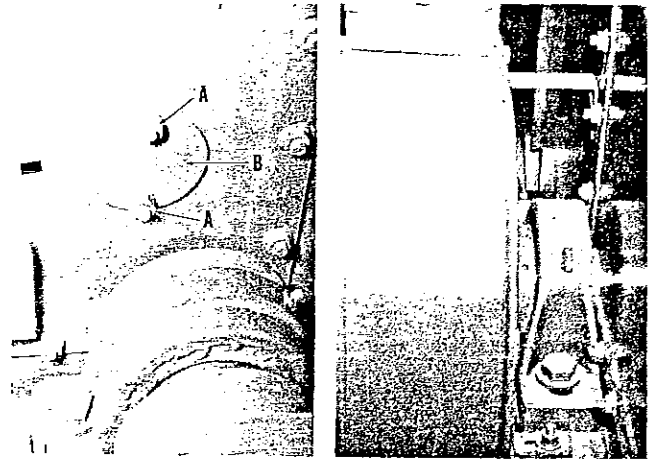

Figure 36 — Front and Rear Hammermill Shaft Bearing
Grease front and rear (2) pillow block bearings on hammermill cylinder shaft after every 10 hours of operation with Arts-Way Super-Lube lubricant or an equivalent SAE multi-purpose type grease. See Figure 36.